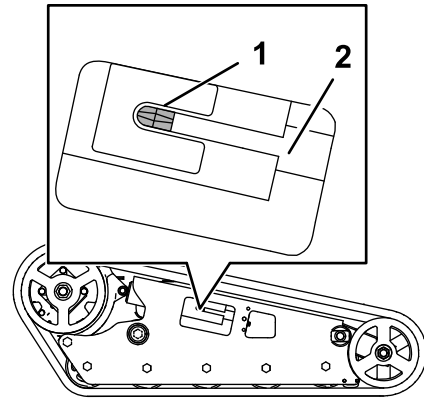

Figure 61
12. Using a 1/2 inch drive ratchet, turn the tensioning screw counter-clockwise until the tensioning screw bottoms out (Figure 61).
21. Verify that the tension screw is bottomed out (Figure 61).